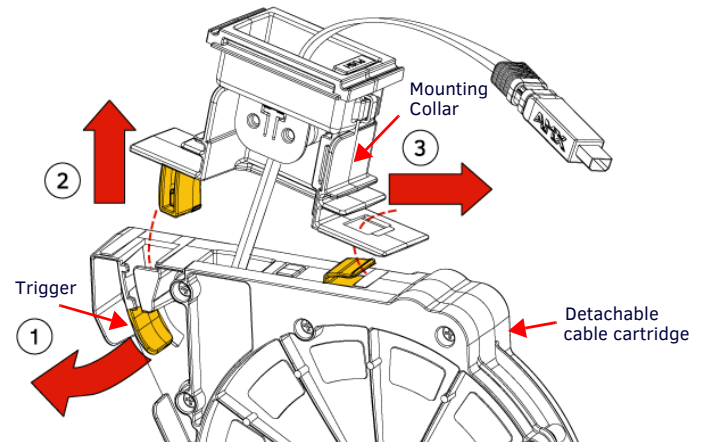

FIG. 4 HPX-AV102-MDP-R MOUNTING COLLAR REMOVAL
6. Pull the cable cartridge trigger (FIG. 4) to release the mounting collar tongue.
4. Push the cable cartridge trigger up onto the mounting collar tongue until it latches (opposite of FIG. 4).